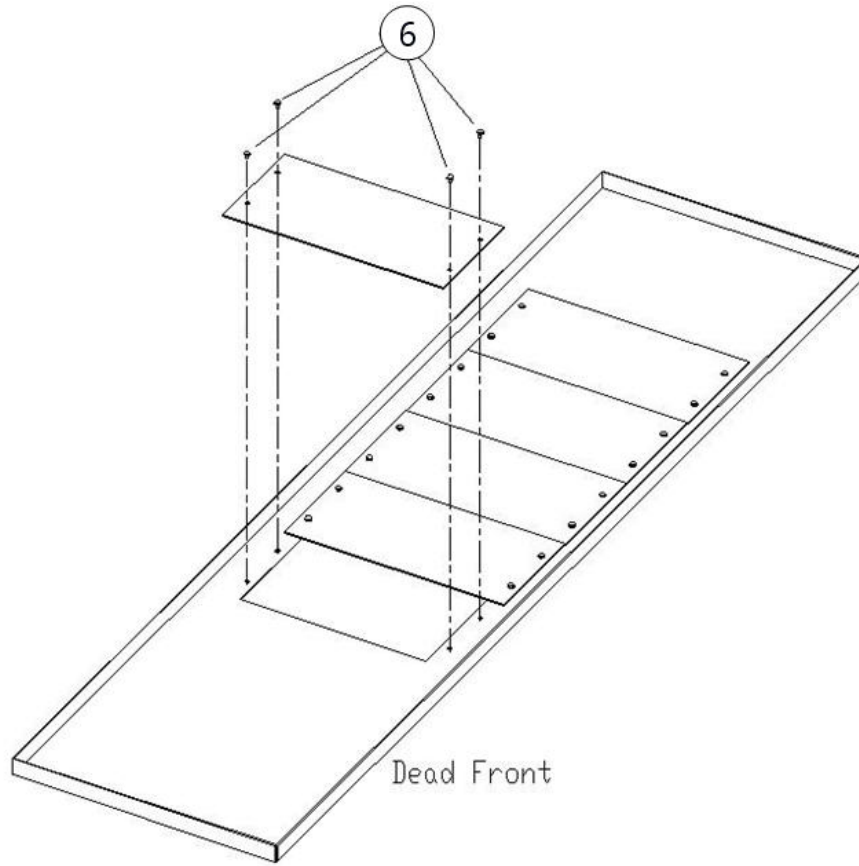

Figure 2. Removing the shield inserts from the shield for THQB breaker installation in A-Series® II Panelboards.
6. Remove the eight screws [6] of existing one filler plates from dead front where THQB breaker needs to be installed, as illustrated in Figure 2.